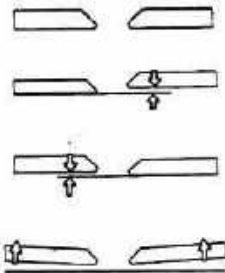

Fig.696. BOTH FENCE MUST BE IN ALIGNMENT
3. Adjust the fence guide and fasten it securely. Make sure the two parts of the fence are in alignment. Check this with a straight board. Fig.696.